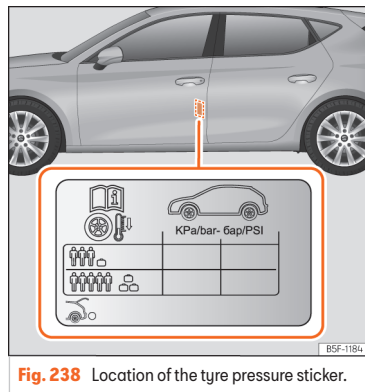

Fig. 238 Location of the tyre pressure sticker.
- Adjust tyre pressure to the load being carried by the vehicle »» **Fig. 238**.
The values of the tyre pressure are shown on the sticker label located on the rear frame of the front left door »» Fig. 238.
The tyre pressure must be adjusted according to the load the vehicle is carrying. If the vehicle is going to be fully loaded, increase the tyre pressure to the maximum load value shown on the sticker label »» Fig. 238.
In the case of a minimised temporary spare wheel (125/70 R16 or 125/70 R18) inflate to a pressure of 4,2 bar as indicated on the tyre pressure label »» Fig. 238.
- The driver is responsible for ensuring that all of the vehicle tyres are correctly inflated to the right pressure. The recommended tyre pressure is indicated on the label »» Fig. 238.
- Tyre pressure should be that indicated on the label when the tyres are cold at all times »» Fig. 238.